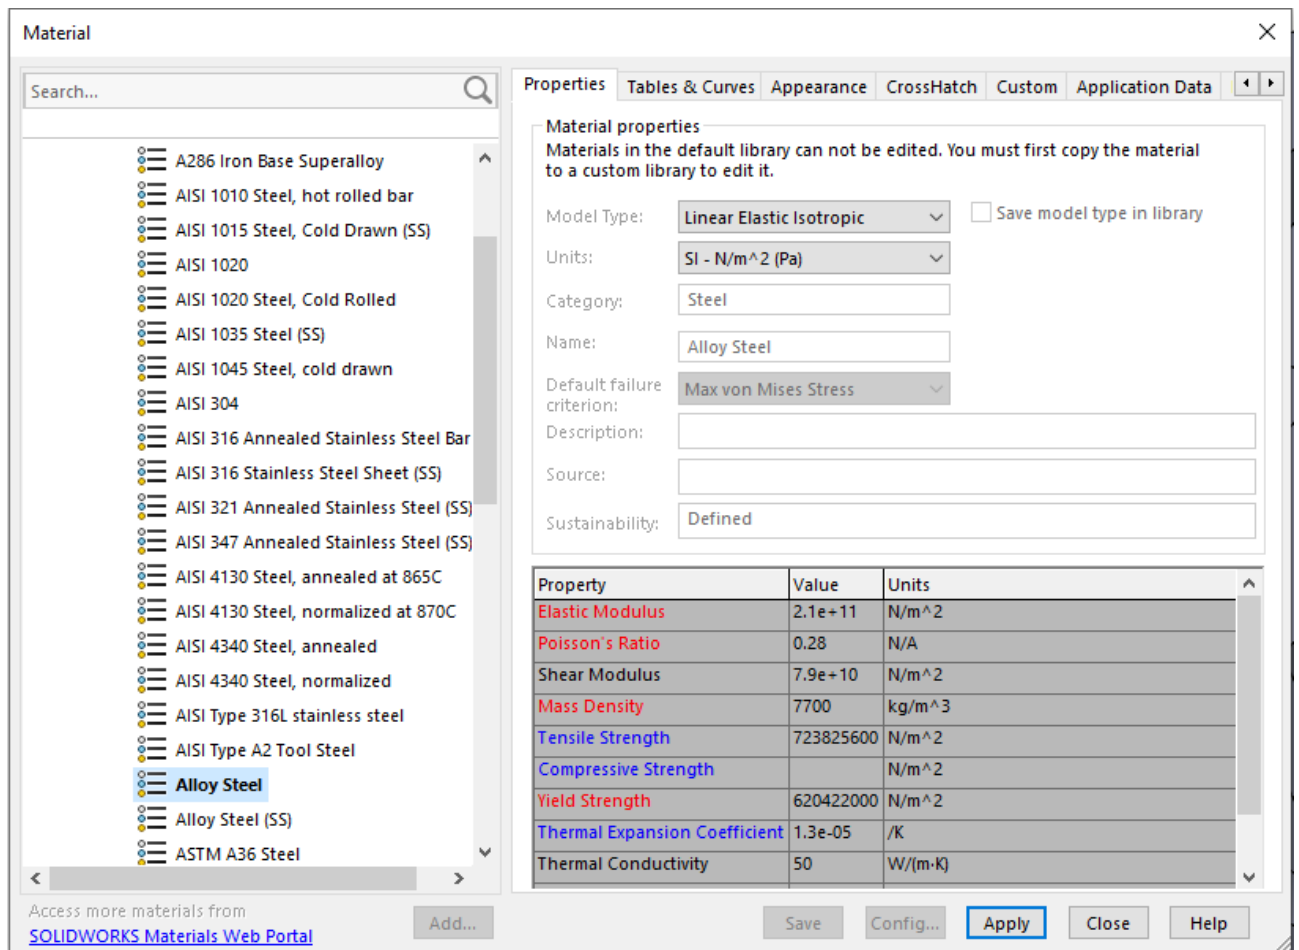

Figure 7 – SolidWorks Material Library Window
- After selecting a material, its properties (Modulus of Elasticity, Poisson's Ratio, Yield Strength, Density, etc.) will be displayed on the right side of the window (Fig. 7). Make sure that the main properties required for static analysis (in particular, Yield Strength - Yield strength), given.